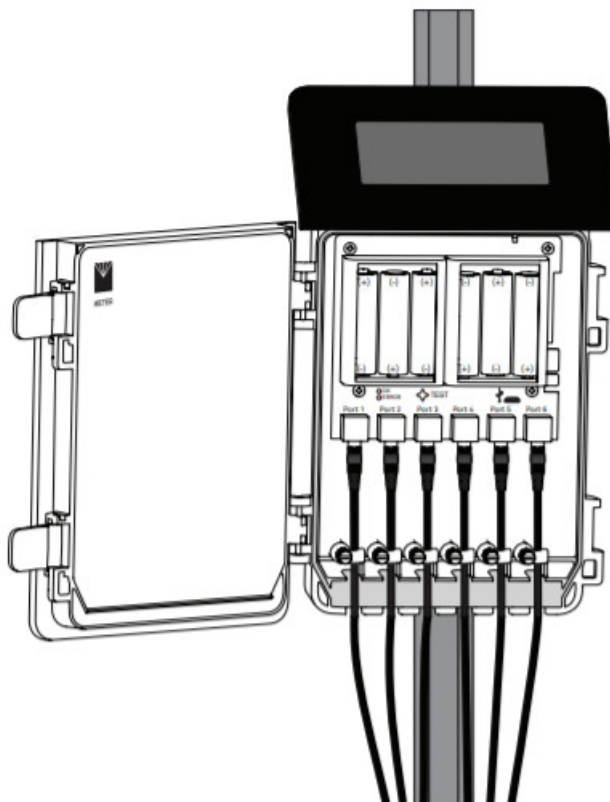

Figure 4 Logger connection
1. Plug the stereo plug connector into one of the sensor ports on the logger (Figure 4).